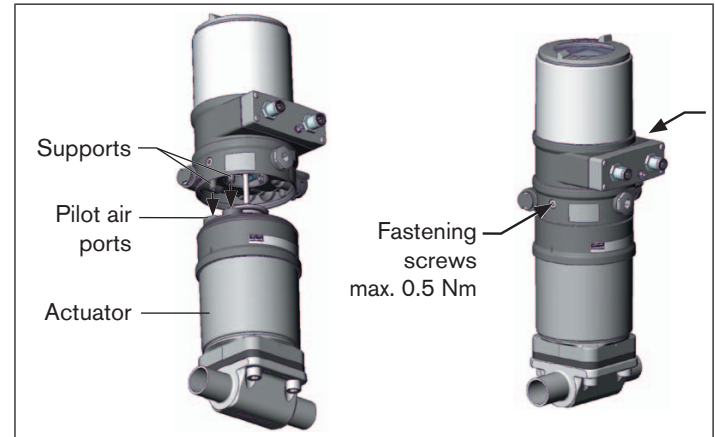

Fig. 8: Aligning the puck holder, series 2103, 2300 and 2301
2. the supports of the positioner / process controller can be inserted into the pilot air ports of the actuator (see "Fig. 8").